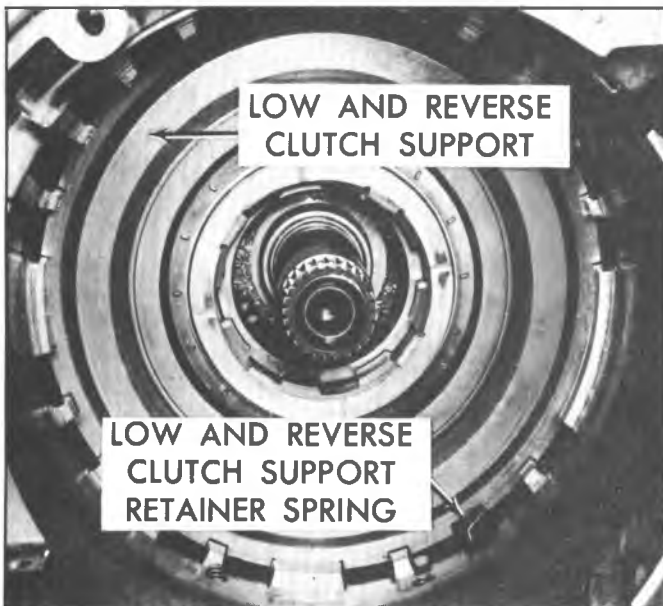

Fig. 97N--Installing Low and Reverse Clutch Support Assembly
9. Install low and reverse clutch support assembly with position of notch with low and reverse clutch support retainer (anti-clunk) spring as shown on Figure 97N.